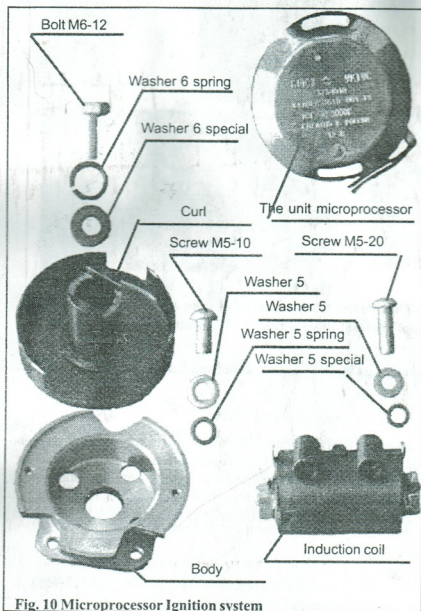

Fig. 10 Microprocessor Ignition system
The Microprocessor Ignition System (Fig 10) is designed for work with the electrical system of 2-cylinder carburetor engines of Ural motorcycles, having nominal voltage of 12 V
Mounting of the system onto engine (see Fig. 10,10a)
- Connect leads K3 and "+" (black and red correspondingly) of the microprocessor unit to terminals of ignition coil (see Wiring Diagram, Fig. 10.a).